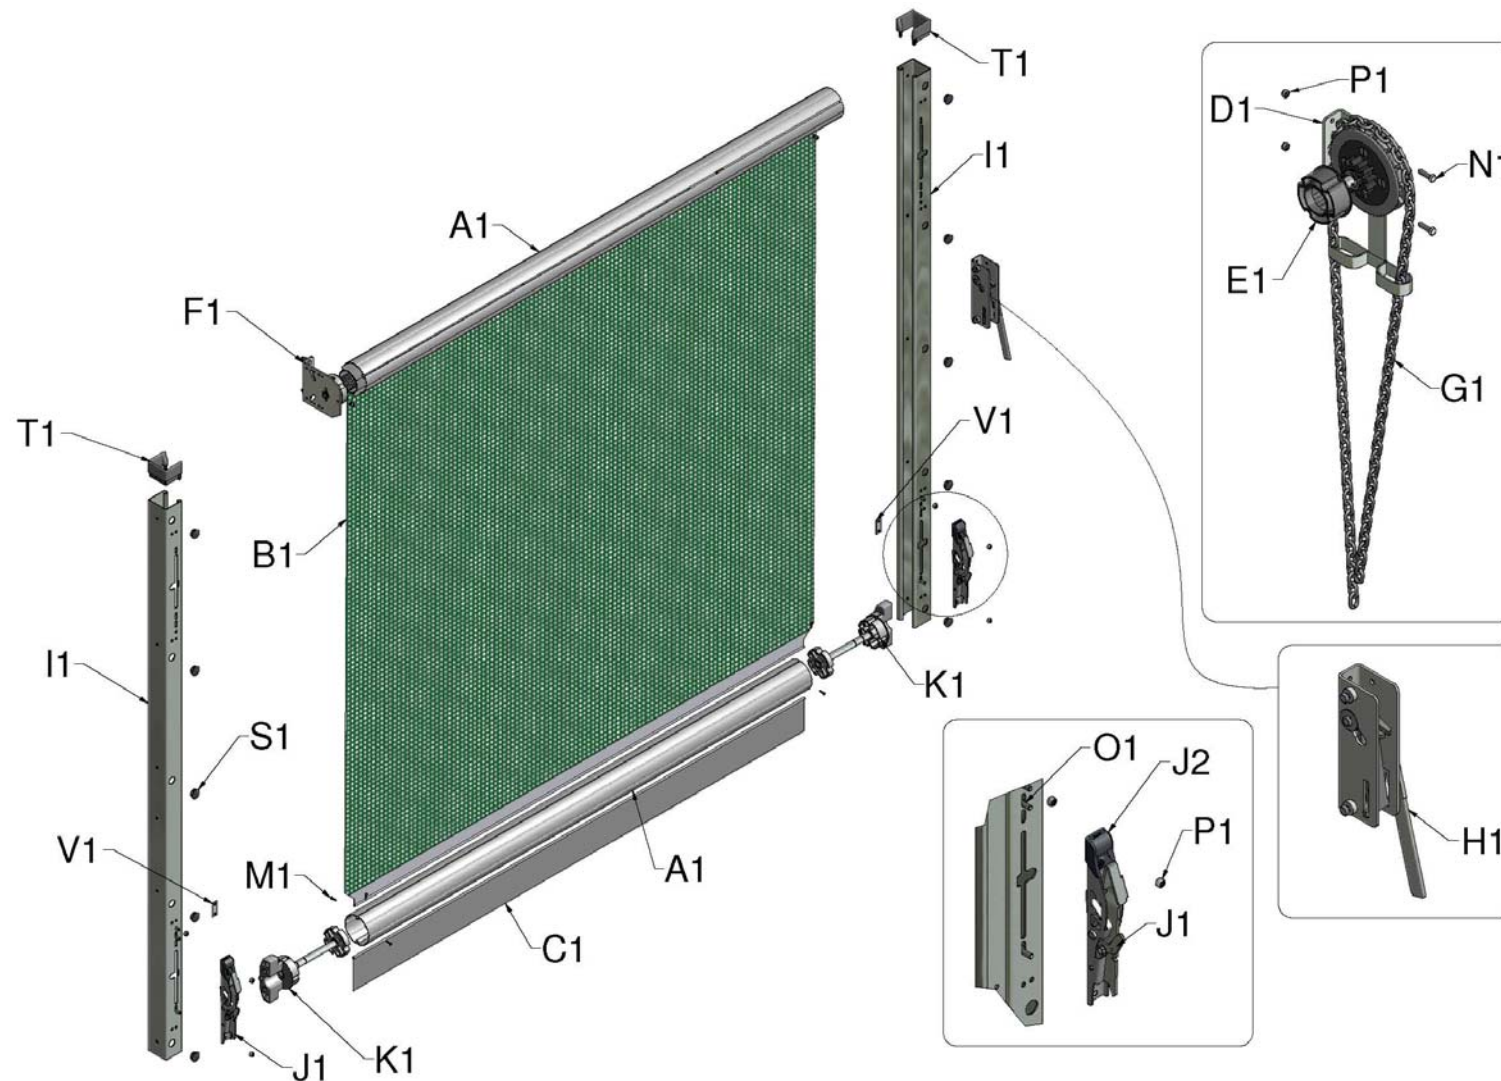

Figure 1, System Overview and Individual Components
1. Check the contents of your door against the parts list using Figure 1. Do not let the screen material come into contact with any sharp objects or edges.